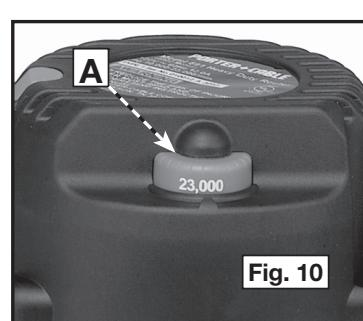

Fig. 10
This router is equipped with a variable speed control (A) Fig. 10 with an infinite number of speeds between 10,000 and 23,000 RPM. Adjust the speed by turning the speed control knob (A).